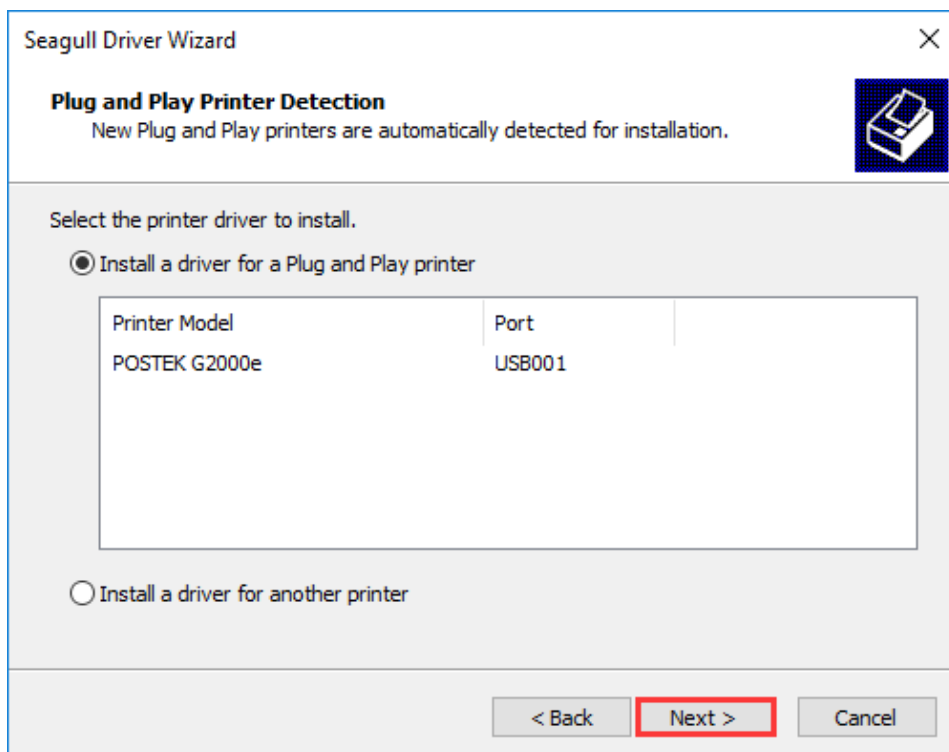

Figure 2-19 Printer Detected
7. The connected printer will be detected (POSTEK G2000e for example), click “Next”, as shown in Figure 2-19.